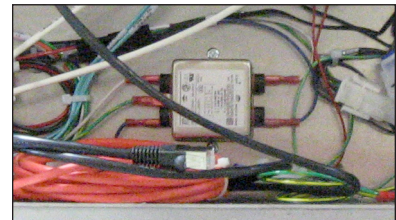

Figure 36: Z-Filter
2. Disconnect the power cables from both sides of the Z-filter. Refer to **Figure 36**.